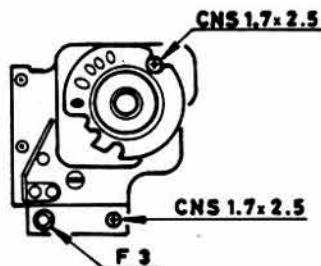

Fig. 4
- ° CNS1.7x2.5 Located under Shutter dial. Refer to Fig. 4.